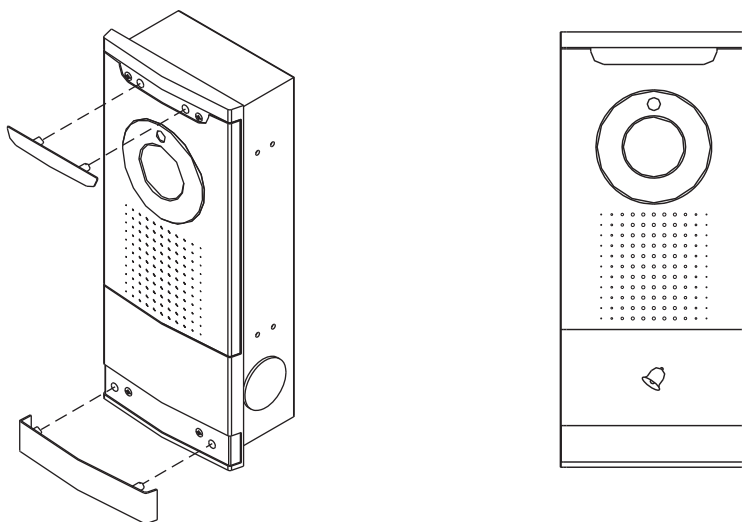

Figure 4
- 7) Insert the top and bottom overlays into the respective mounting holes until they snap in place (**Figure 4**).